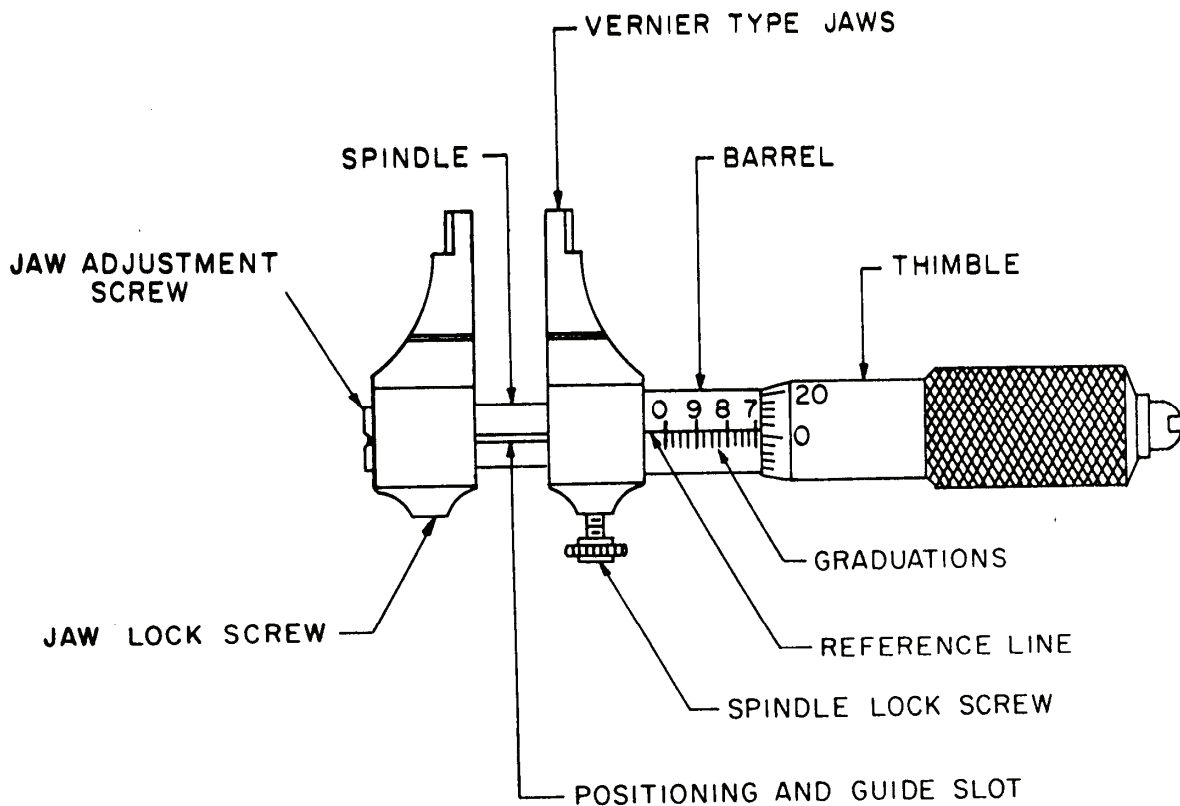

Figure 1. Micrometer, caliper, with jaws.
1. Test Instrument Identification. This bulletin provides instructions for the calibration of Micrometers, Inside (General). See figures 1 through 4. Manufacturers' manuals were used as the prime data sources in compiling these instructions. The equipment being calibrated will be referred to as the TI (test instrument) throughout this bulletin.